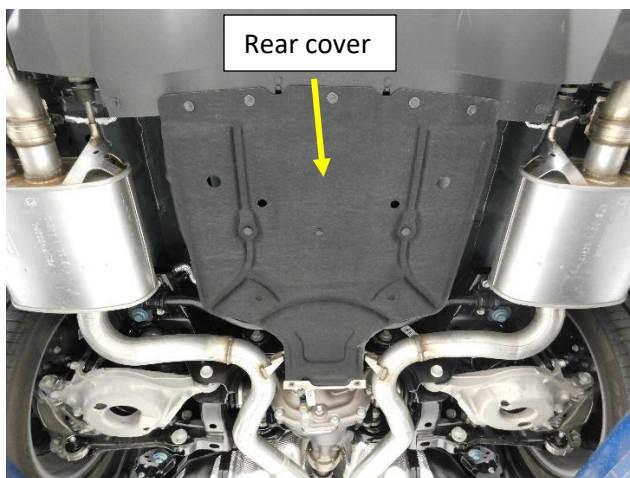

Figure.1
2. Remove the rear cover and Mounting bracket as shown in **Fig .1, Fig.2**